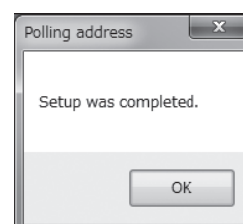

Fig.103
- ④ If the setting is modified from the previous setting, a message box (Fig. 103) will appear. Click "OK" to complete setting.